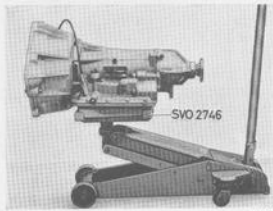

Fig. 4-87. Fixture for transmission
8. Disconnect the electric cables from the starter inhibitor. Unscrew the screws for the starter motor. Place a jack with fixture 2746 under the transmission. See Fig. 4-87. Unscrew the attaching bolts for the converter casing. Pull the transmission backwards and release the guide pin on the converter at the same time. Lower and remove the transmission.